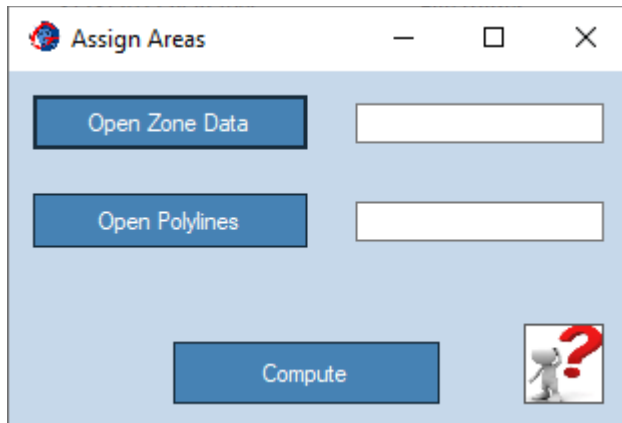

Figure 15: Assign Areas dialog window.
- **Assign Areas:** Opens the dialog window shown in Figure 15. This option Assign Areas to an already existing FLAC3D® mesh. Currently, only for 2D Meshes.